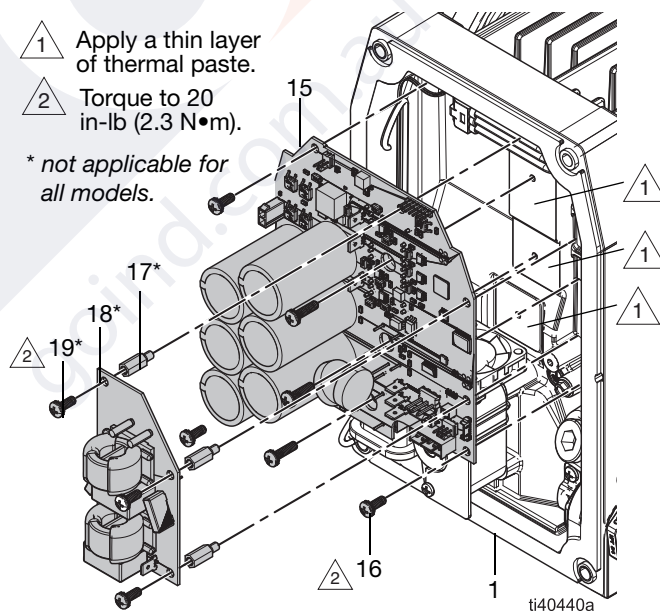

FIG. 11: Control Board and Filter Board
See FIG. 11.
2. If needed, apply a thin layer of thermal paste where indicated in FIG. 11.
3. Hold wires away from the stator housing (1) and insert the control board (15) into the stator housing.
4. Hold the control board (15) in place. At the same time, install the control board fasteners (16). Torque to 20 in-lb (2.3 N•m).
5. If applicable, install spacers (17), filter board (18), and fasteners (19). Securely tighten the fasteners (19).
6. If applicable, connect the filter board (18) power brown cable to L1 and blue cable to L2 on the control board. See **Electrical Schematics**, page 34.
7. Connect all wires to the control board (15) and filter board (18, if applicable). See **Electrical Schematics**, page 34.